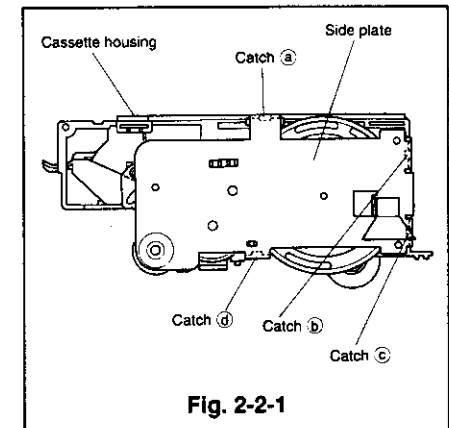

Fig. 2-2-1
- ① Remove the cassette housing. (Refer to Para. 2-1 for the removal method.)
- ② Unfasten the four catches (a, b, c and d) as shown in Fig. 2-2-1 and remove the side plate.
- ③ Remove the sens gear.